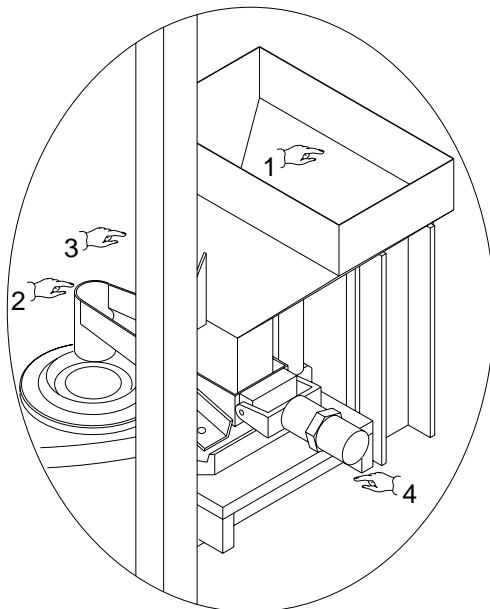

Fig. 6.14
This device, which is mounted on the structure, is used to spread nut granules, chocolate flakes or similar on the product. The unit consists of a hopper (Pos. 1, Fig. 6.14) connected to distribution channels (Pos. 2, Fig. 6.14) along which the product flows due to the effect of the vibration induced by a vibrator.
- slacken screws (Pos. 3, Fig. 6.14) using the
wrench and move the adjustable baffles (Pos. 4, Fig. 6.14), lifting them to increase granule feed or lowering it to reduce feed.
- rotate the pressure regulator (Pos. 5, Fig. 6.14) clockwise to increase the working pressure of the vibrator in proportion to the quantity of granules fed, and anticlockwise to reduce it.